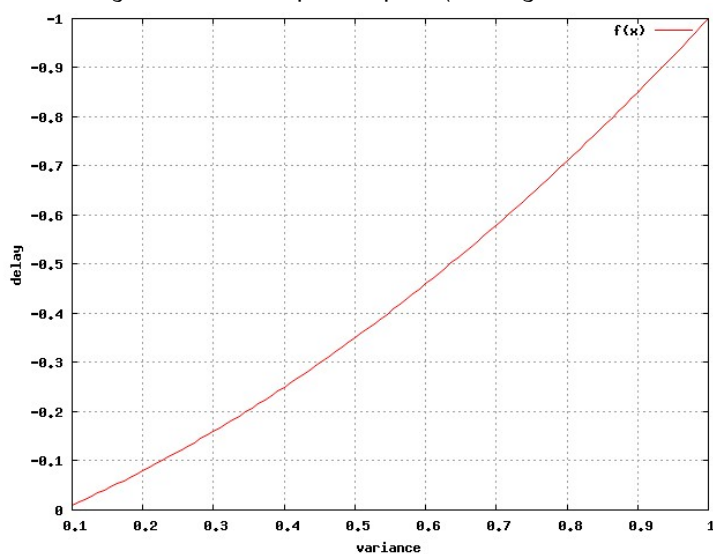

Figure 153: Variance delay dependency for phasorplot.
**Get a Delayvalue** A delay value could be detected with the help of the Flim Unmixing plugin. At first it is to mention that there is a dependency between the variance of a profile and an adequate delayvalue for the phasorplot (see figure 153 for an example).